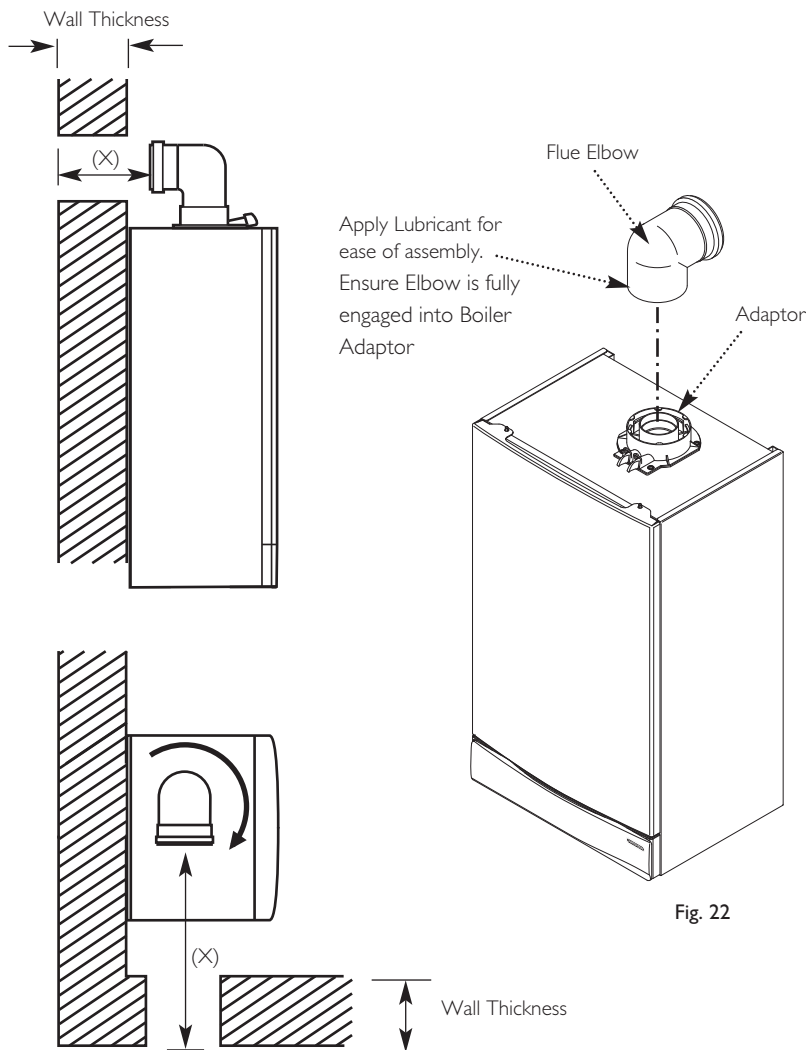

Fig. 22
2. Locate the flue elbow on the adaptor at the top of the boiler. Set the elbow to the required orientation (Fig. 22).